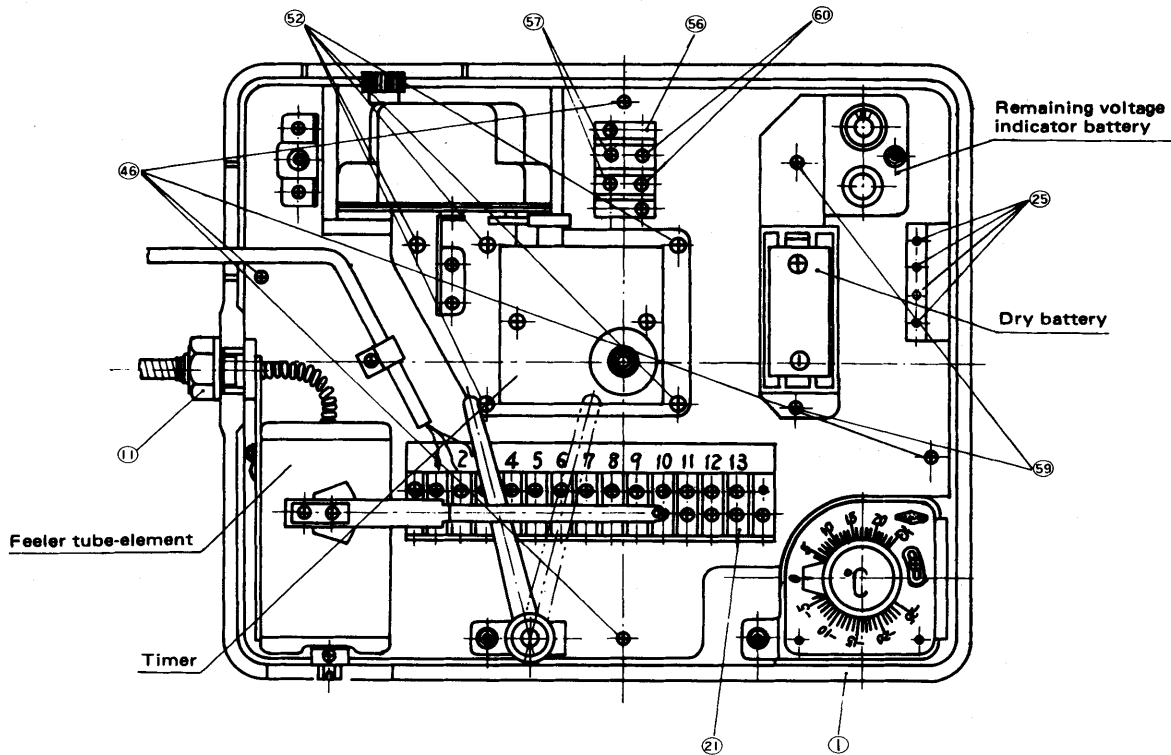

Fig. 3 Internal structure
- (1) Remove the recording plate from the body (1) (See Article 2.2.1) When it is removed, it looks as shown in Fig. 3. In this state, sensor, timer, remaining voltage indicator and batter and dry battery are replaced.
- In case the pilot lamps for functioning temperature (25) remain unlit although the power source is turned on.
- Remove the recording board, (state shown in Fig. 3). Loosen terminal screws (Nos. 1 to 3) on the terminal strip (21) and remove the wiring. Then, measure temperature of the feeler part and resistance of the sensor and compare them with the characteristics of temperature resistance shown in Fig. 10, and if they do not accord with them, replace the sensor. If they accord, the main base plate or the volume setter is out of order. So replace it in accordance with Articles 4.3.1 and 4.3.2.
- Replace the recording board, and insert a battery so as not make a mistake in polarity as in the state of Fig. 3 (Fig. 3 shows polarity of a battery). It is advisable to use a battery similar to SUM-2 of JIS C8501 and R14 of IEC. (Dry battery DC1.5V)
- Remove the recording board (state shown in Fig. 3). Loosen two screw bolts (59) and two screw bolts (60), and the remaining voltage indicator battery can be removed from the indicator body. So replace it with a new battery.
- When replacing, connect the wires to the terminal strip (56) in a way red wire to red and black wire to black.